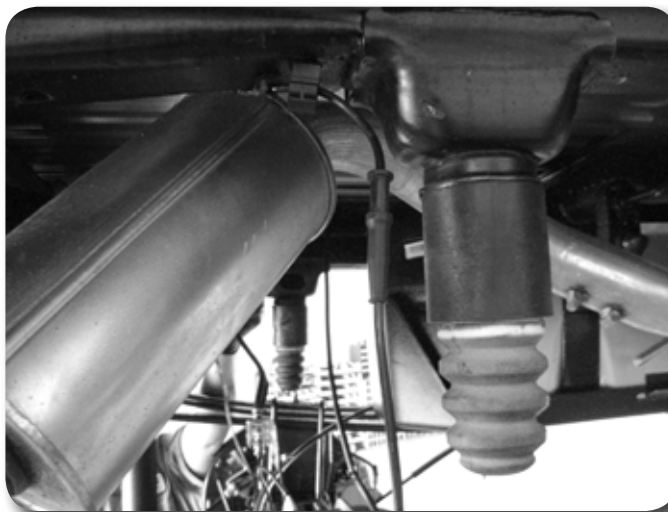

Figure 46
12. Remove the rear rubber bump stops from the frame. Access the bolt head up through the center of bump stop using a 10mm socket. Remove the bump stop and install the provided 3" diameter x 3" tall spacer between the bump stop and the frame mount with a 10mm x 110mm Allen head bolt (Loctite threads). Center the spacer on the lip of the factory bump stop cup and torque bolt to 35 ft-lbs **Figure 46**.